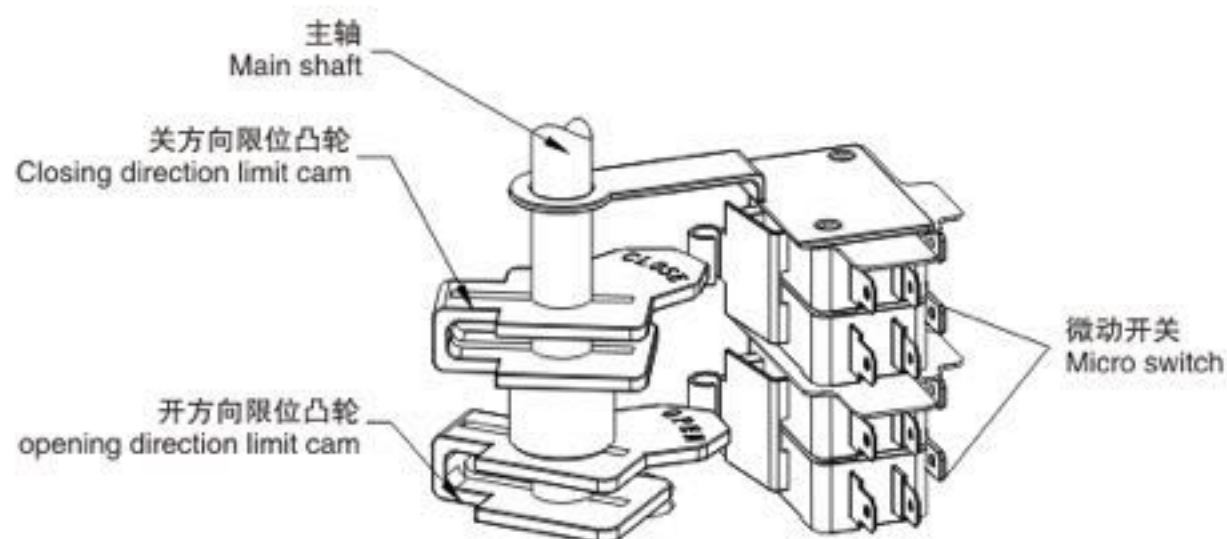

图11 Figure 11
7.2 行程限位调整 (图11) Adjustment of Travel limit (Fig. 11)